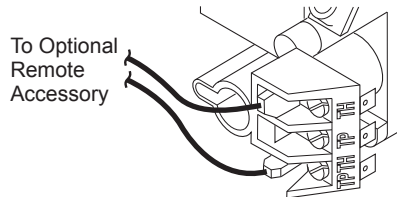

Figure 35 - Control Valve Terminals
4. Connect wires from receiver to TH and TPTH to control valve (see Figure 35).